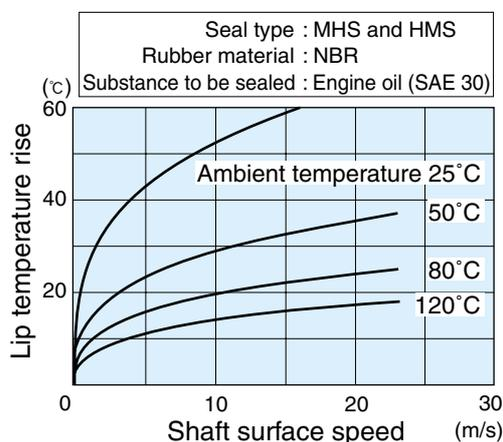

Fig. 1.6.2 Estimated lip temperature rise curves
- ② Determine the supposed ambient temperature
- ③ Find the point at which the ambient temperature curve meets the calculated shaft surface speed in Fig. 1.6.2
- ④ Read the ordinate value of the point
- ⑤ Obtain the estimated lip temperature by the sum of the ordinate value and ambient temperature
In Fig. 1.6.2, the cross of the curve for ambient temperature 80 °C and shaft surface speed 10.5 m/s indicates that the lip temperature rise will be 20 °C. Therefore, lip temperature is estimated 100 °C (80 + 20 = 100 °C).